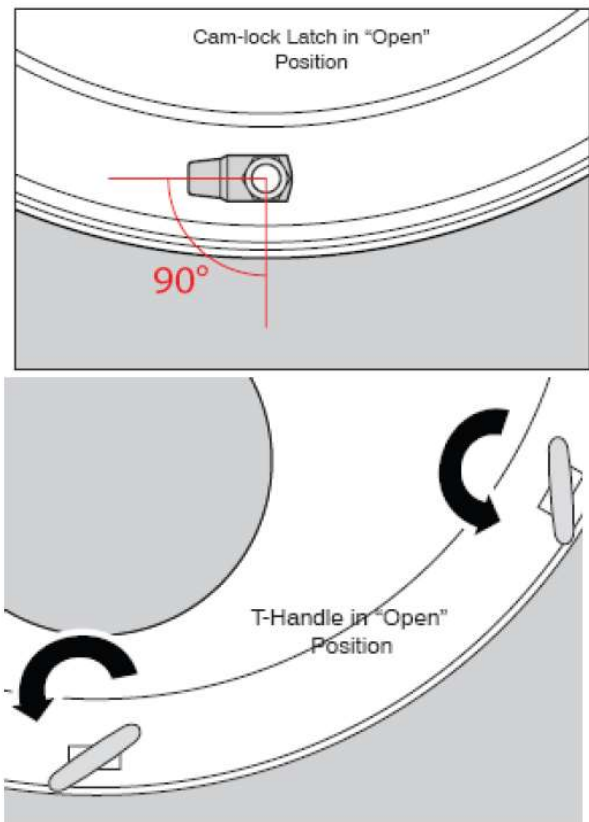
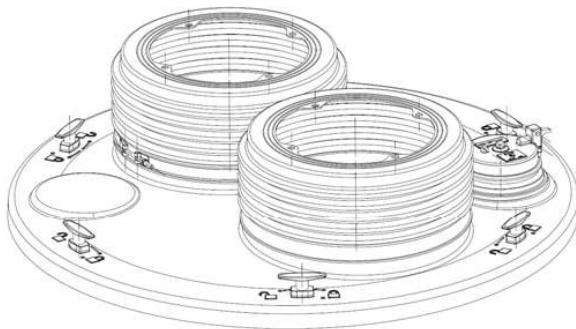

Figure 37
Figure 38
60. Ensure shroud cover is ready for installation. Turn all T-handles on the water shroud platforms to the open position – the cam-lock latches on the underside should be 90 degrees opposed from the edge of the platform (See Figure 37): Loosely install shroud boots over the shroud cover but do not tighten band clamps. Observation cover should be installed with all threaded openings plugged. See Figure 38.